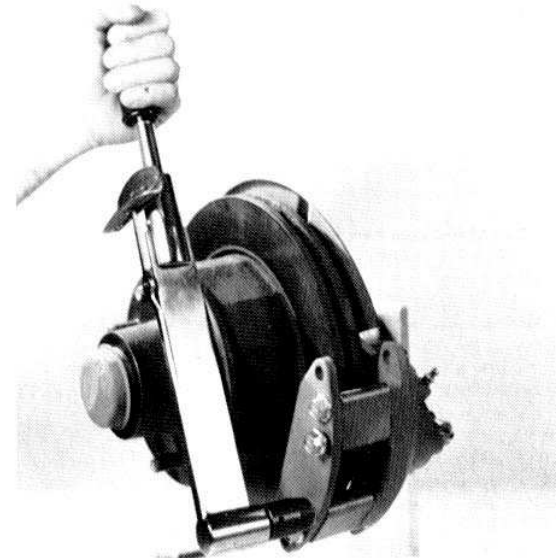

Fig. 28
5. Check torque on the four (4) caliper assembly bolts. It should be 45-50 lb-ft. (Fig. 28)